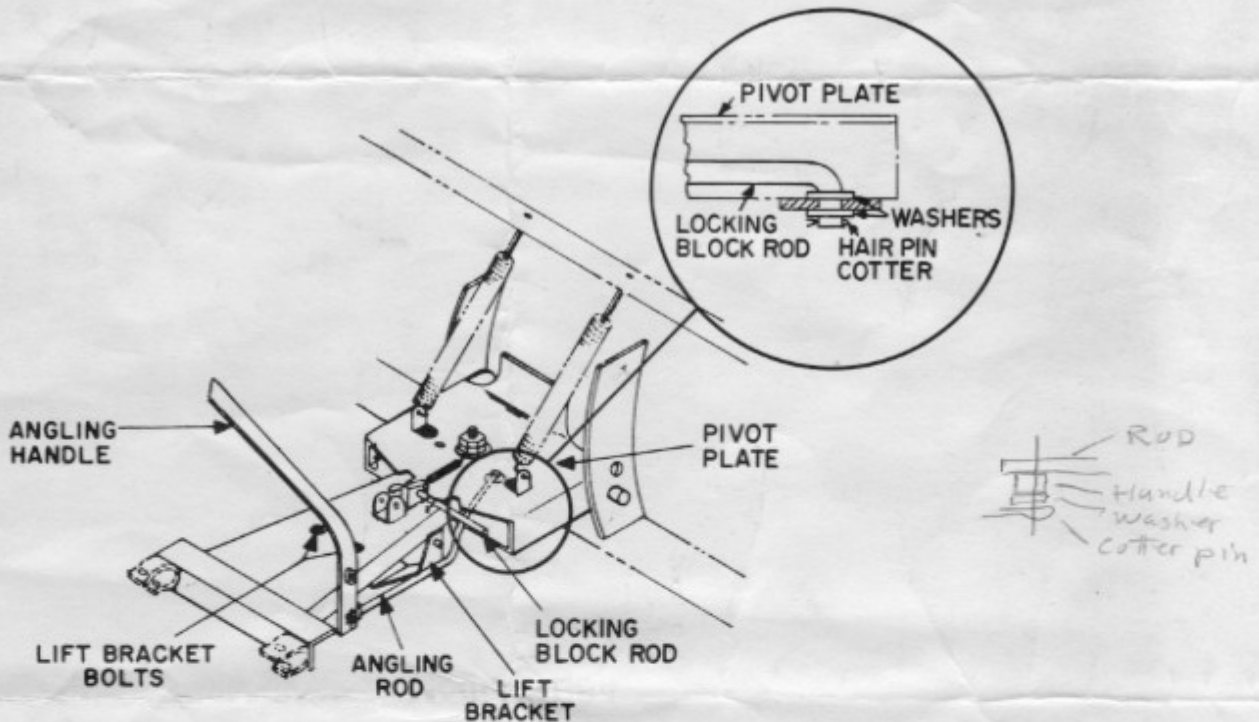

Figure 1
1. Place a 5/8-inch washer over the round end of the angling rod, and insert this end of the rod into the rear opening of the pivot plate and through the right-hand hole in the bottom surface of the pivot plate. Place another 5/8-inch washer on the end of the angling rod protruding through the pivot plate bottom and secure it with a hair pin cotter. See Figure 1